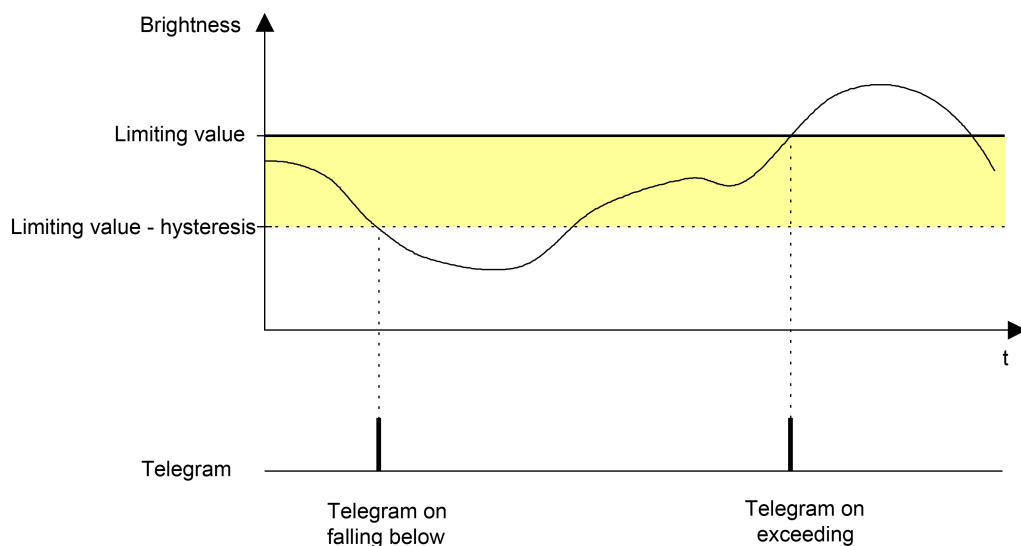

Figure 65: Example 1 of the limiting value definition
1. Brightness limiting value = Upper threshold (see figure 65)